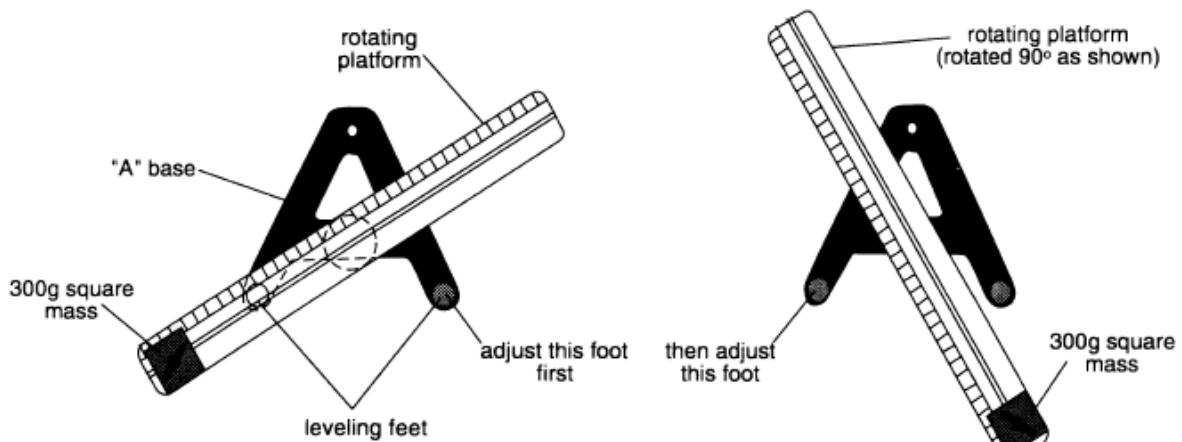

Figure 7.6. Leveling the Base
- 1) Attach the square black 300-gm mass onto the opposite end of the platform from the Side Post (see Figure 7.6). Its exact position is not critical. Tighten the screw so it will not slide.
- 2) Turn the right leveling screw on the A-frame base clockwise to raise the right foot of the base until the heavy end of the platform (the square mass) is over the left leveling screw, as in Figure 7.6 left.
- 3) Without moving the base, rotate the platform 90° so it is parallel to the right leg as in Figure 7.6 right, then turn the right leveling screw clockwise until the platform stays in this position without rotating on its own.